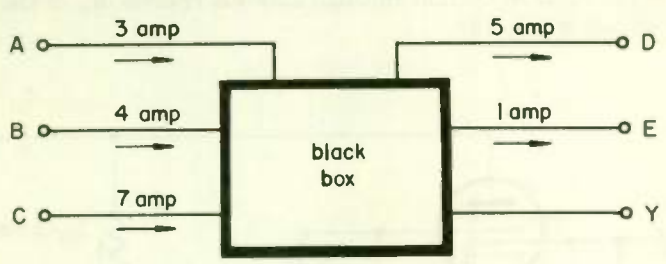

Fig. 10
1. The term "black box" is used in electronics to describe a block on a diagram within which the nature of the circuitry is not stated, because it is not important to know it. Figure 10 shows such a black box. We don't know what is inside the box, but we do know that there are six leads going to the box and that the current in five of the leads is known to be as shown on the diagram. What is the current in lead Y, and in what direction is it flowing?